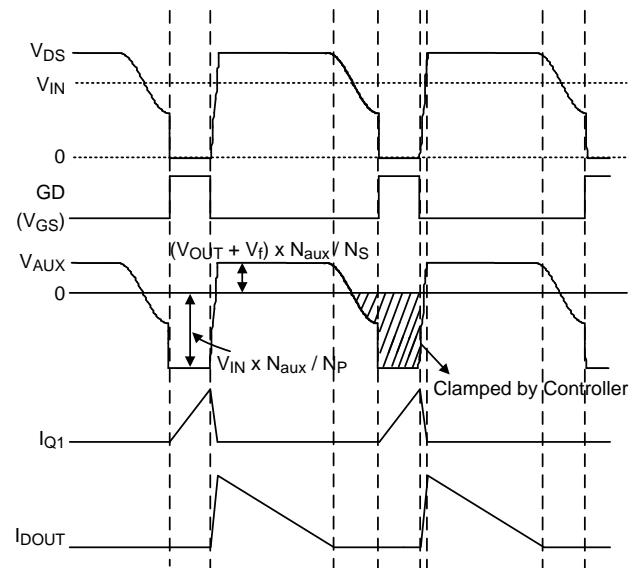

Figure 2. Key Waveforms of a Flyback Converter
The RT7306S needs no shunt regulator and opto-coupler at the secondary side to achieve the output current regulation. Figure 2 shows several key waveforms of a conventional flyback converter in Quasi-Resonant (QR) mode, in which V_{AUX} is the voltage on the auxiliary winding of the transformer.